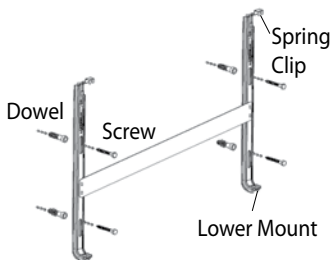
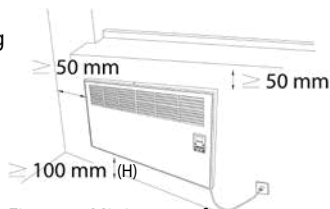

Figure 5. Wall mounting brackets
Figure 6. Minimum safety zones required for the efficiency of the appliance
2. Correct space has to be measured in order that the connection cord can easily be connected to the electric socket. After determining the place the holes for montage must be drilled according to the method shown in Figure 7. To fix this appliance you can use the wall mounting bracket. (Figure 5) Mounting bracket can be used as a template for positioning and drilling points. You can place the bracket on the wall and measure the space between the floor and the lower part of the bracket as min 100 mm or max. 200 mm. Mark the screw-holes through the holes with an appropriate pen. You have to be careful to ensure the safety zones are kept free in order that the appliance can work efficiently. (Figure 6.)